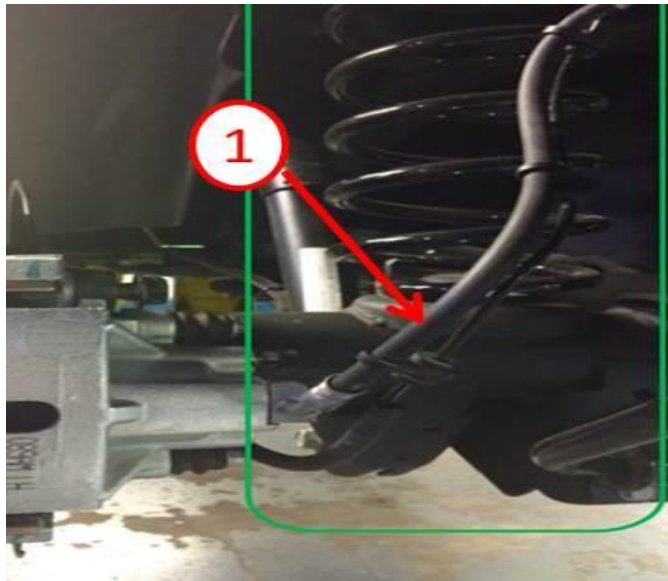

Fig. 2 Correctly Installed
5. Remove the brake caliper from the caliper adapter mount and rotate the assembly 360° and reinstall properly **making sure there is no contact against rear axle, wheel or tire** (Fig. 2). Tighten the brake caliper mounting slide pin bolts to 30 N·m (22 ft. lbs.).